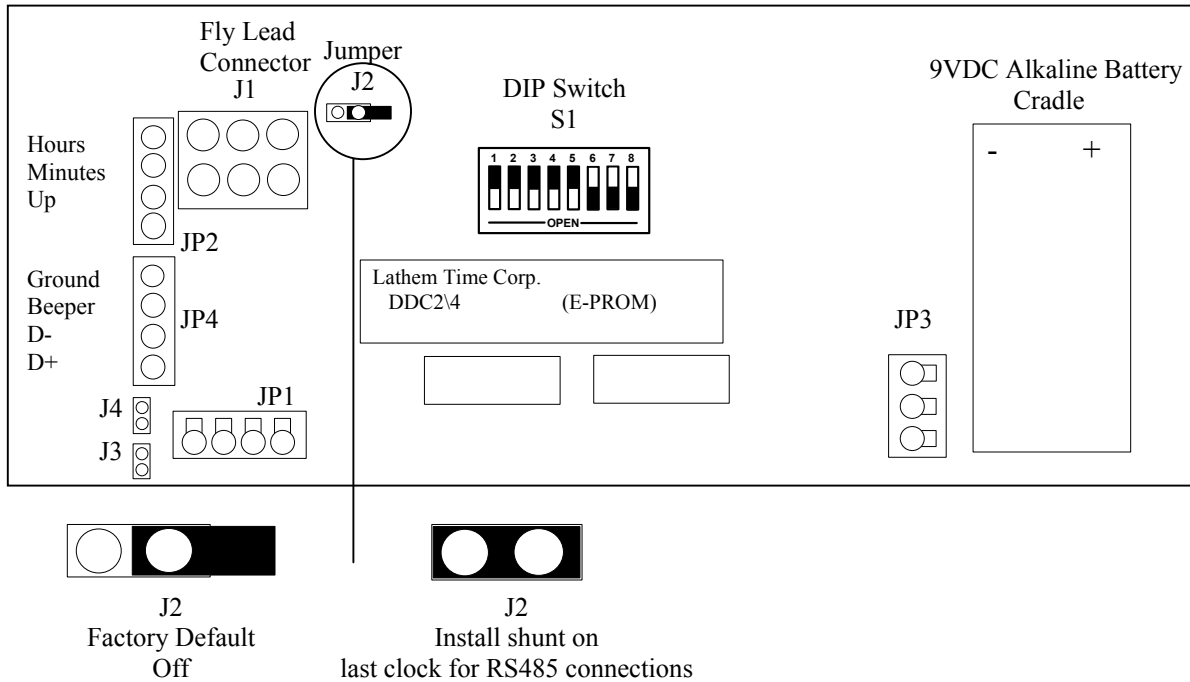

Figure 2
When multiple DDC2 (4)-RS Series Wall Clocks are installed as slave units to either the Lathem LTR4-512 or LTR8-512 Master, LTR0 Mini-Master, Terminal Manager Software or the OMNI:CHRON Time Clock, the last clock on the line must have a shunt installed over both pins at position J2 (see figure 2, page 9). When shipped, the shunt is placed over only one pin of position J2 in an "open" setting. It is necessary to place the shunt over both pins of position J2 and create a "closed" setting for the last clock on the line.
Remove the four phillips head screws from the left or the right end cap and remove. Slide the lens and circuit board assembly out of the case. Place the lens aside and carefully flip the circuit board assembly over and lay it face down on a clean, smooth work surface. Locate position J2 on the left, upper side of the back of the circuit board assembly (see figure 2, page 9). Lift the shunt straight up off the single pin of position J2. Align the shunt to cover both pins of position J2 and press firmly into place. Slide the lens and circuit board assembly back into the case, replace the end cap, and secure with the four phillips head screws.
Remove the two phillips head screws from the left or the right end cap and remove. Slide the front panel assembly out of the case. Carefully flip the front panel assembly over and lay it face down on a clean, smooth work surface. Locate position J2 on the left, upper side of the back of the front panel. (See figure 2, page 9) Lift the shunt straight up off the single pin of position J2. Align the shunt to cover both pins of position J2 and press firmly into place. Slide the front panel display back into the case, replace the end cap and secure with the two phillips head screws.
Remove the four phillips head screws from the left or the right end cap and remove. Slide the lens and circuit board assembly out of the case. Place the lens aside and carefully flip the circuit board assembly over and lay it face down on a clean, smooth work surface. Locate the Battery Cradle on the upper right corner of the circuit board assembly. (See figure 2, page 9) Slide the battery into the cradle making sure the Positive and Negative connections of the battery and cradle match. Snap the battery onto the connections located inside the battery cradle. Slide the lens and circuit board assembly back into the case, replace the end cap and secure with the four phillips head screws.
Remove the two phillips head screws from the left or the right end cap and remove. Slide the front panel assembly out of the case. Carefully flip the front panel assembly over and lay it face down on a clean, smooth work surface. Locate the Battery Cradle on the upper right corner of the circuit board assembly. (See figure 2, page 9) Slide the battery into the cradle making sure the Positive and Negative connections of the battery and cradle match. Snap the battery onto the connections located inside the battery cradle. Slide the front panel display back into the case, replace the end cap and secure with the two phillips head screws.
Remove the four phillips head screws from the left or the right end cap and remove. Slide the lens and circuit board assembly out of the case. Place the lens aside and carefully flip the circuit board assembly over and lay it face down on a clean, smooth work surface. Remove one of the vent caps from the case of the wall clock and route the power cord through it to the back of the circuit board assembly. (If the power cord will be routed through the back-of-the-clock conduit access, route the cord through the gang box and conduit access hole to the back of the circuit board assembly). Strip away 1/2" of the protective shield from each wire of the power cord. Locate the two black wires leading from J1 (see figure 2, page 9) and attach the AC In line of the cord to one and the AC Return line to the other. (normally black is AC In and white is
Remove the two phillips head screws from the left or the right end cap and remove. Slide the front panel assembly out of the case. Carefully flip the front panel assembly over and lay it face down on a clean, smooth work surface. Remove one of the vent caps from the case of the wall clock and route the power cord through it to the back of the display panel. (If the power cord will be routed through the back-of-the-clock conduit access, route the cord through the gang box and conduit access hole to the back of the circuit board assembly). Strip away 1/2" of the protective shield from each wire of the power cord. Locate the two black wires leading from J1 (see figure 2, page 9) and attach the AC In line of the cord to one and the AC Return line to the other (normally black is AC In and white is AC Return). Attach the ground wire of the cord, (normally green) to the green ground screw located on the inside back of the case. Slide the front panel display back into the case, replace the end cap and secure with the two phillips head screws.
The DDC Wall Clock comes with a detachable wiring harness to make installation easier. The wiring harness can be removed from the back of the main circuit board at position J1 as shown in figure 2 so wiring from the master clock can be attached to the wiring harness with the clock's Electronic Assembly removed. The leads from the wiring harness should be connected as shown in the diagrams in Appendix A.
The DDC Wall Clock comes with a detachable wiring block to make installation easier. The wiring block can be removed from the back of the main circuit board at position JP4 as shown in figure 2 so wiring from the master clock can be attached without the need of holding the Wall Clock itself. Wiring should be connected as shown in the diagrams in Appendix C.
The DDC Wall Clock comes with a detachable wiring block to make installation easier. The wiring block can be removed from the back of the main circuit board at position JP2 as shown in figure 2 so wiring from the Timer Control Panel can be attached without the need of holding the Wall Clock itself. Wiring should be connected as shown in the diagrams in Appendix D.